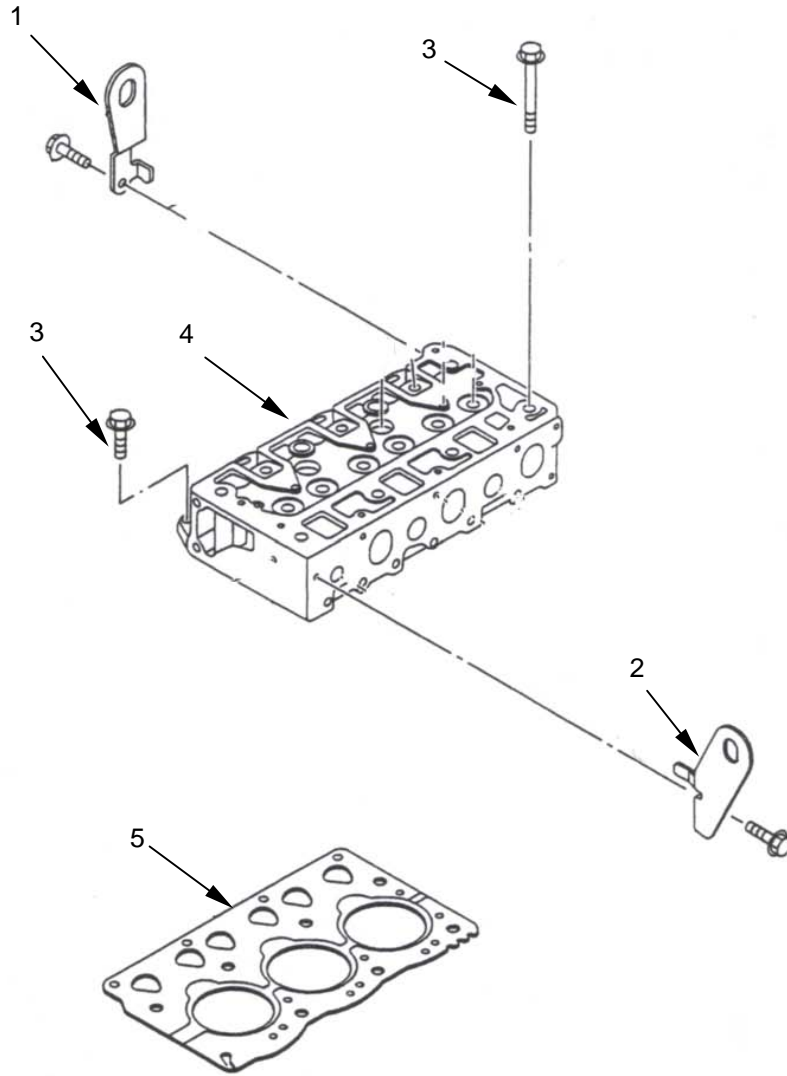

Figure 8. Cylinder Head
- a. Remove rear (**figure 8, item 1**) and front hangers (**figure 8, item 2**).
- c. Remove mounting (**figure 8, item 3**) bolts from cylinder head.
- d. Remove the cylinder head assembly (figure 8, item 4) and the head gasket (figure 8, item 5).